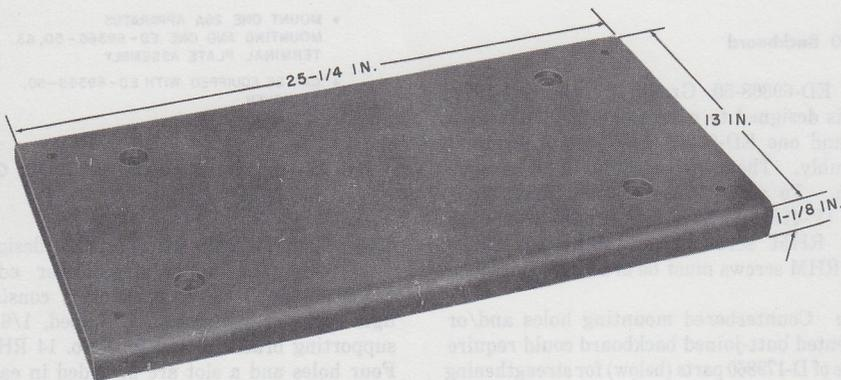

Fig. 25—Insulating Base per ED-91180-70
5.07 The insulating base per ED-91180-70* (Fig. 25) is a wooden base for 11- and 18-plate cabinets.